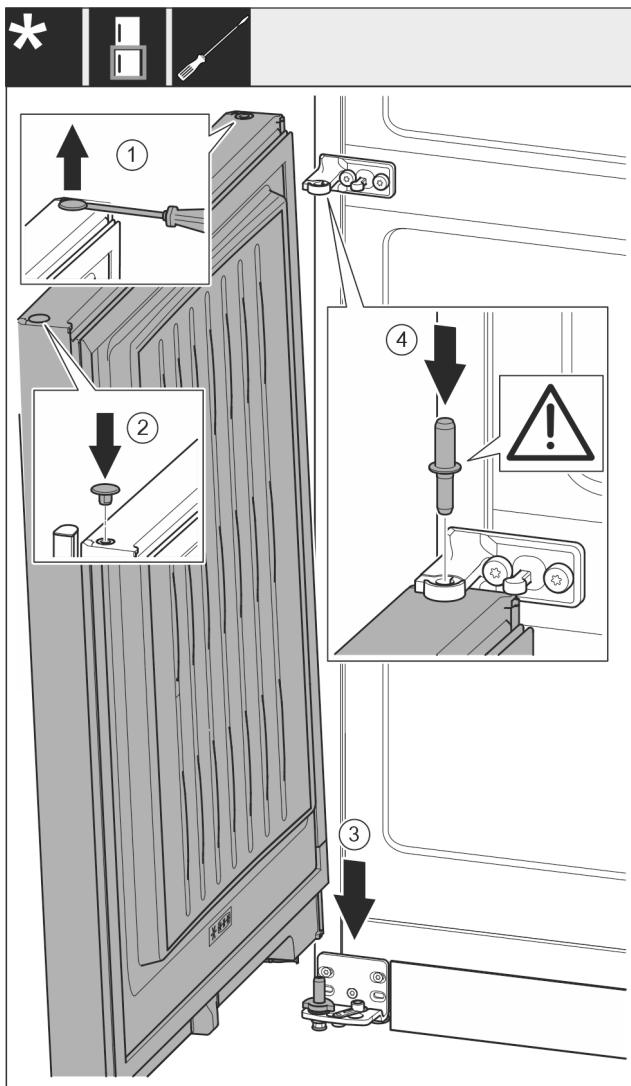

Fig. 24
- ▶ Carefully lift the plug Fig. 24 (1) with a slotted screwdriver and pull it out.
- ▶ Reinsert the plug Fig. 24 (2) on the other side of the door.
- ▶ Fit the door Fig. 24 (3) onto the lower bearing pin from the top.
- ▶ Insert the center bearing bolt Fig. 24 (4) through the center swap bearing block into the bottom door. In the process, make sure that the latching cam shows towards the rear.